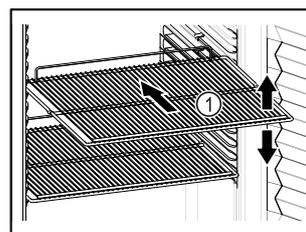

Fig. 30 Example illustration
- ❑ If there are adjustable shelves *Fig. 30 (1)*, position them as required.